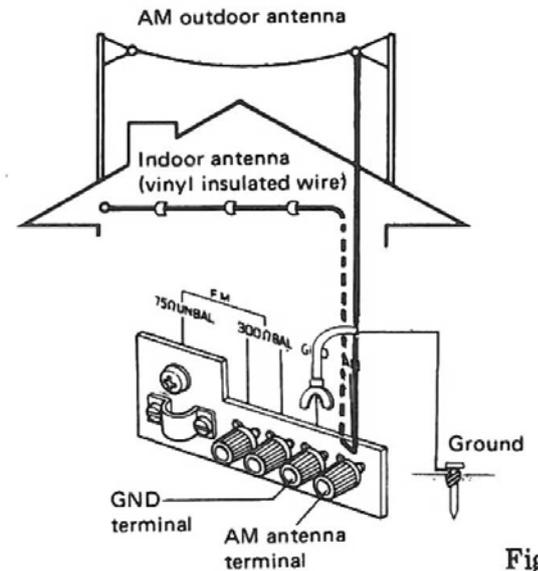

Fig. 5
- In cases when the bar antenna is insufficient for adequate reception, an indoor AM antenna can be made from a length (5 to 6 meters) of vinyl insulated wire. As shown in Fig. 5, connect one end of the wire to the AM antenna terminal and suspend the free end from a wall or ceiling at as high a location as possible.
- If reception is still difficult with an indoor antenna, use vinyl insulated wire to erect an outdoor AM antenna between two supports as shown in Fig. 5.
From the viewpoint of both safety and reduced noise, Pioneer recommends that you employ a ground as shown in Fig. 5. Connect the ground lead to the GND terminal of the tuner. Never connect it to a gas pipe or other dangerous location.